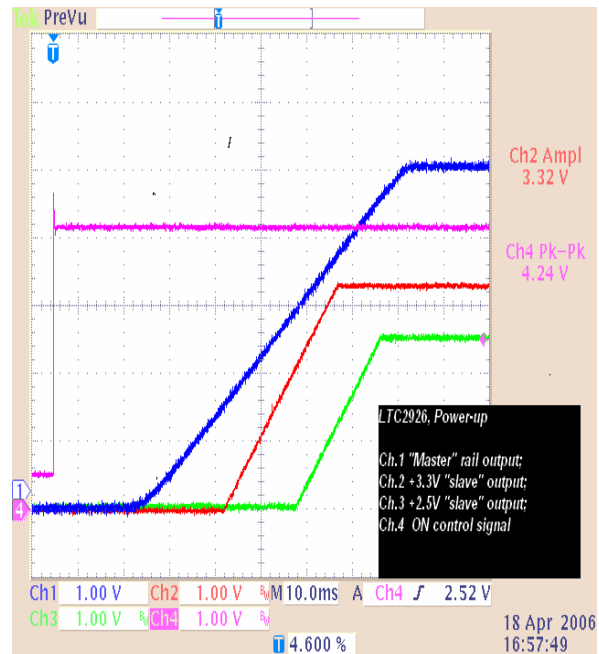

Figure 3. Power-up mode
8. The power-up output voltages should correlate with the transient shown in Figure 3. Acceptable tolerance in the slew rate value and timing position is  $\pm 30\%$ .